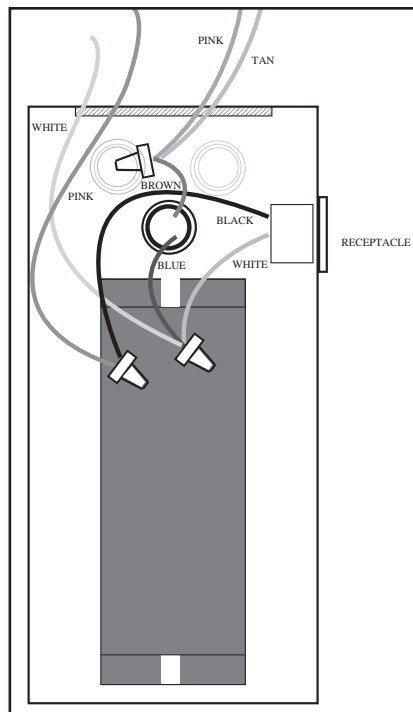

Figure 2
Locate the junction of tan, pink and black wires coming from power cord area. See figure 1 and Figure 2. If cabinet is supplied with a European style cord, the power cord, black, wire will be brown.
At this junction, cut the pink wire several inches from the junction. Strip each end of wire 1/2". See figure 2.
- Route all interconnecting wires through newly created knockout hole. See Figure 2.